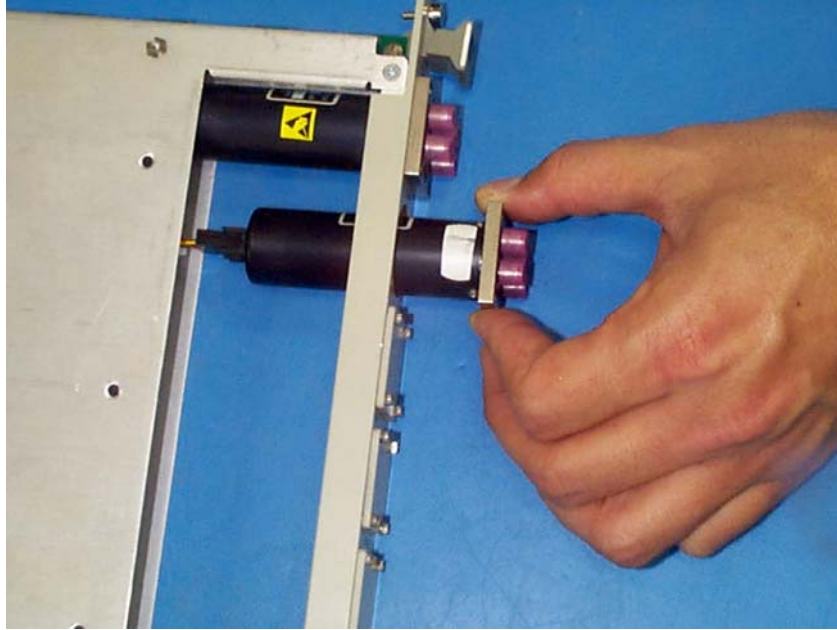

FIGURE 4-8: PARTIAL REMOVAL OF SWITCH
4. Gently pull the switch forward until the connector is in view. (See Figure 4-8).